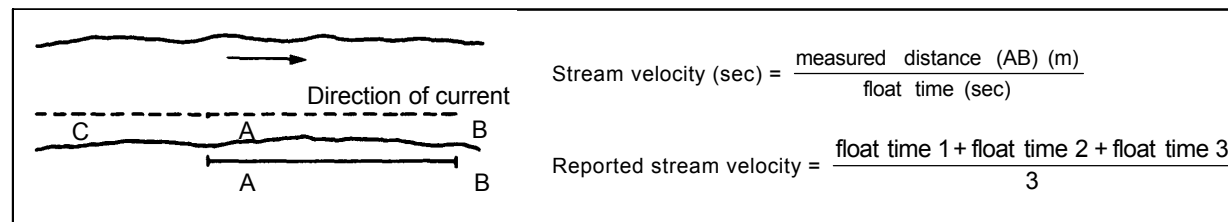

Figure 1-10. Determining the Stream Velocity
c. The velocity of a current varies in different parts of a stream. The current is usually slower near the shore and swifter in the main channel. Perform the following steps to determine the stream velocity (*Figure 1-10*):
Step 5. Use the average time of the test to compute the velocity (formula in *Figure 1-10*).